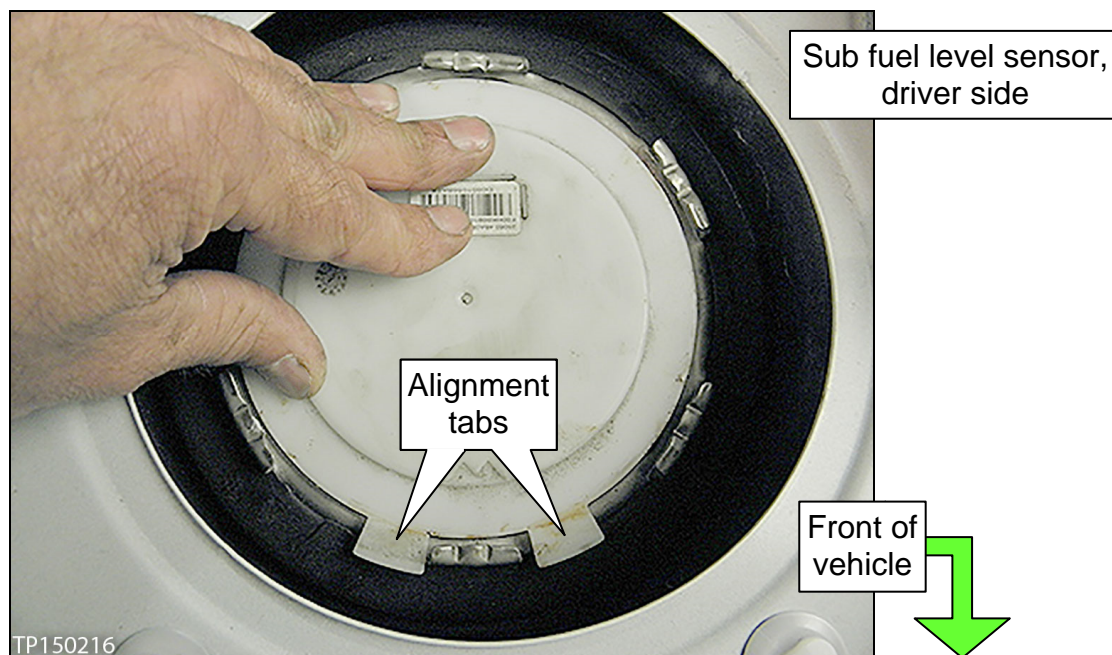

Figure 18
29. Set the alignment tabs in their proper positions while installing the sub fuel level sensor (see Figure 18).